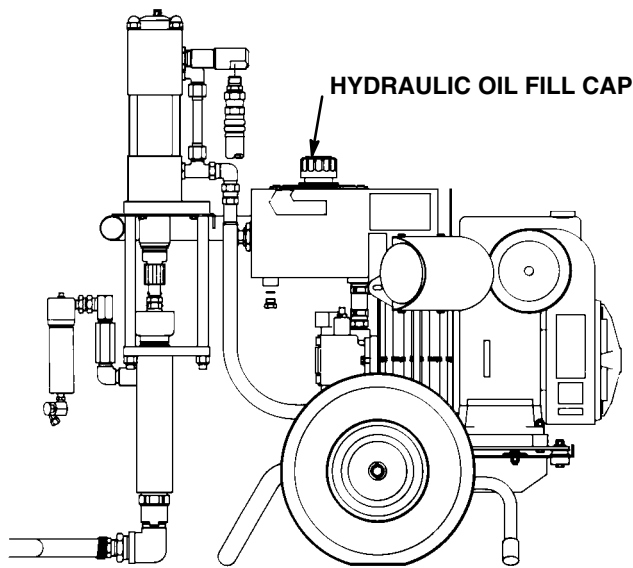

Fig 3
- a. Unscrew the oil fill cap. See Fig 3. The dipstick is attached to the cap. The oil should be up to the full line on the dipstick.